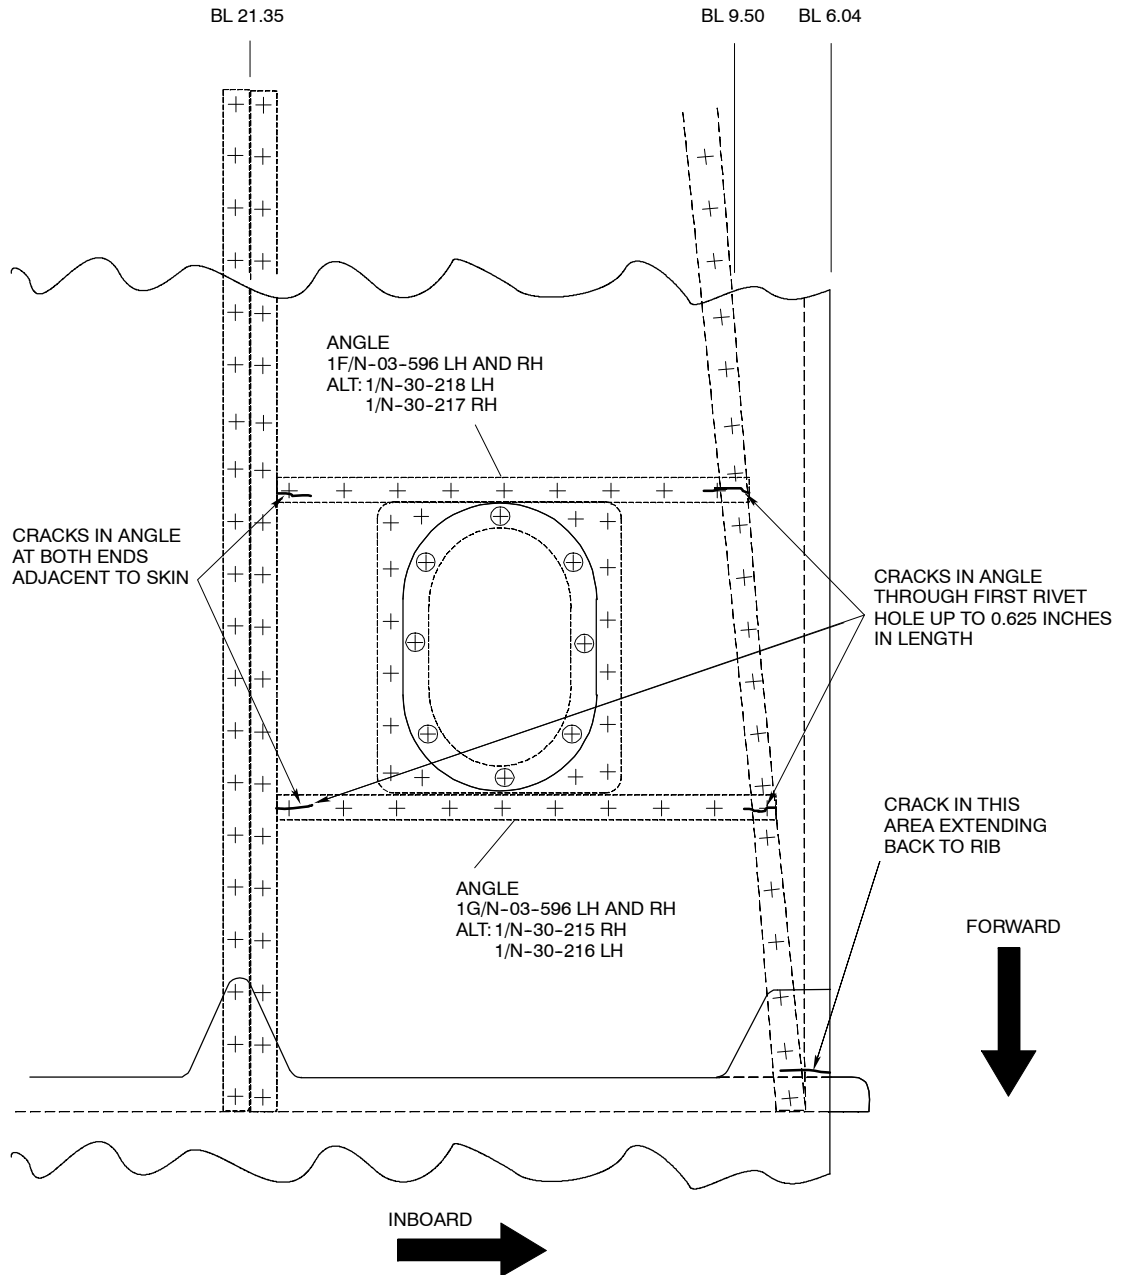
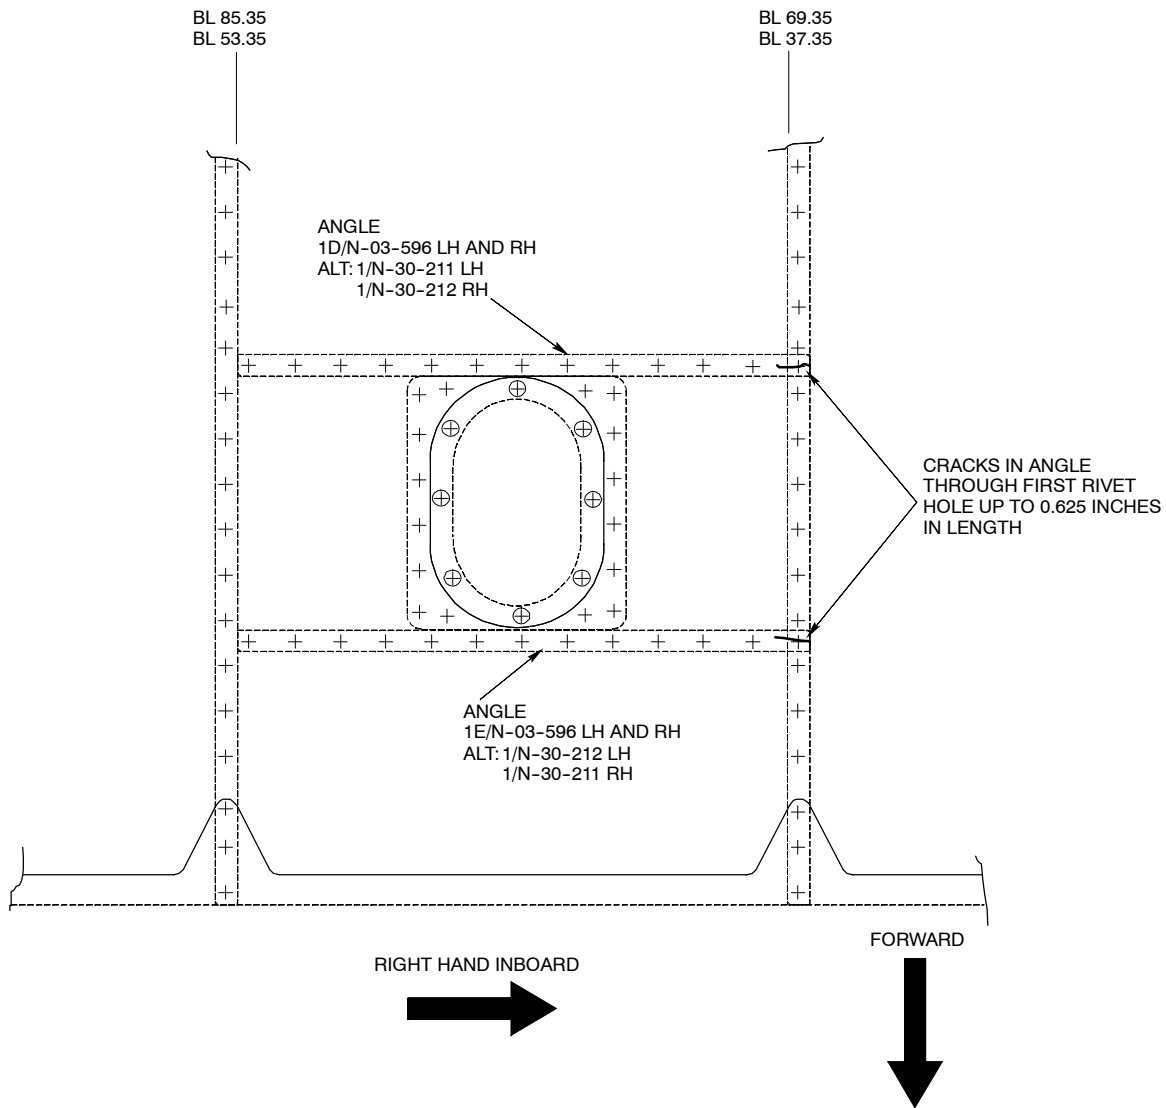

Figure 4 Cracking of Inboard Access Hole Intercostal Angles in Horizontal Stabiliser
Figure 5 Cracking of Outboard Access Hole Intercostal Angles in Horizontal Stabiliser
- (9) Using a suitable borescope, inspect the inside surface of the lower trailing edge rear spar channel between BL 69.35 and BL 101.95 (i.e. outboard of the tab).
- (10) Using a mirror and strong light inspect the under surface of each of the intercostal stiffener angles for cracks beginning at the end of each angle (Ref Fig 4 and Fig 5).
Cracks detected on the skins of the horizontal stabiliser shall be repaired in accordance with the Structural Repair Manual, Chapter 55-10-11. Cracked intercostal angles (Refer to Figures 4 and 5) shall be repaired by replacement.